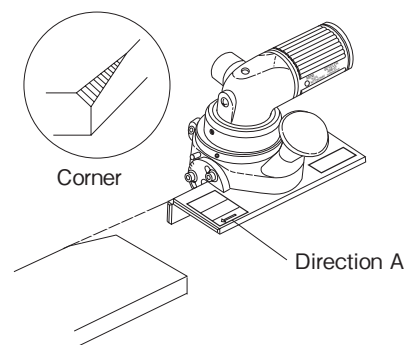

Fig. 11
- (1) When you start to work from the corner as shown in Fig. 11, cut off the corner first with grinder etc., then start.